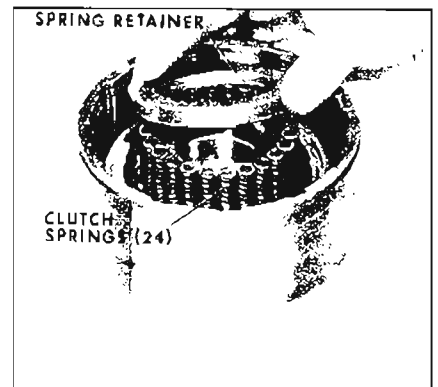

Figure 5-216
8. Lift off spring retainer and twenty-four (24) clutch springs. See Figure 5-216.